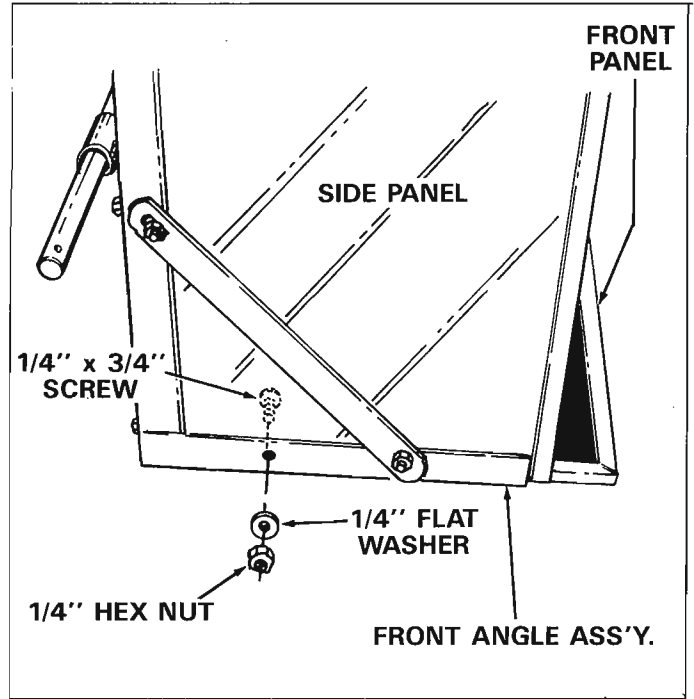

FIGURE 7
- Assemble one 1/4" x 3/4" truss head screw through bottom hole in side panel and front angle assembly. Secure flat washer and hex nut. See figure 7. **Make only finger tight at this time.**